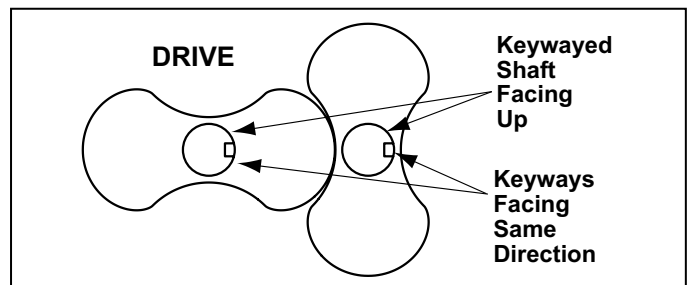

Figure 7 - Keyways
3. Stand rotors [1] on arbor press table with gear end shafts up. See Figure 7. Two keyways should point in the same direction, to the right.